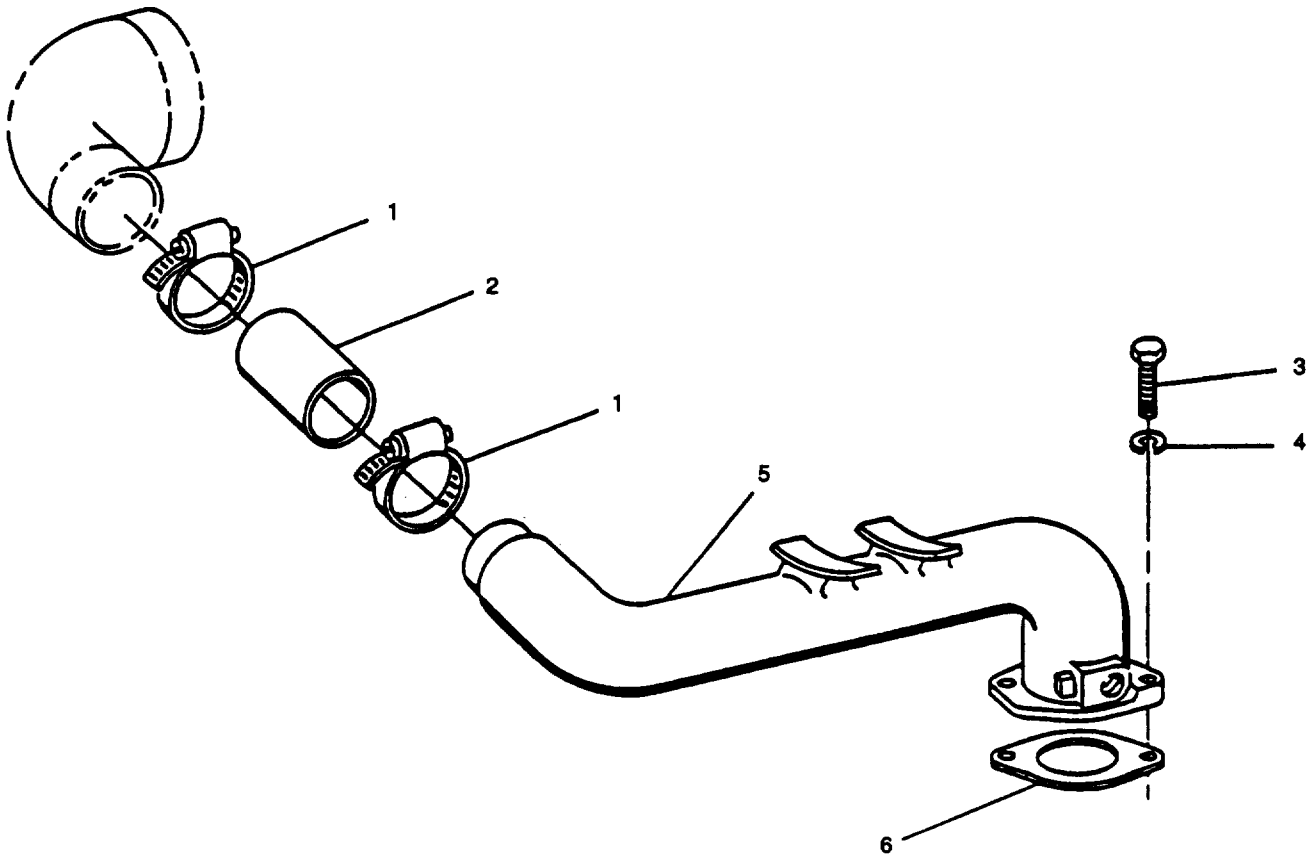

FIGURE 3-27. Intake Manifold
- a. Loosen two clamps (1, FIGURE 3-27) securing hose (2) to turbocharger and air inlet elbow (5). Remove clamps and hose.
- c. Remove two capscrews (3) and lockwashers (4) securing air inlet elbow (5) to cylinder head. Remove elbow and gasket (6); discard lockwashers (4) and gasket (6).
- b. Position new gasket (6, FIGURE 3-27) and air intake elbow (5) on cylinder head and secure with two capscrews (3) and new lockwashers (4). Tighten capscrews to 35 ft-lbs (47 Nm).
- c. Ensure hose (2) is in good condition and install it between turbocharger and air intake elbow (5) and secure with two clamps (1).